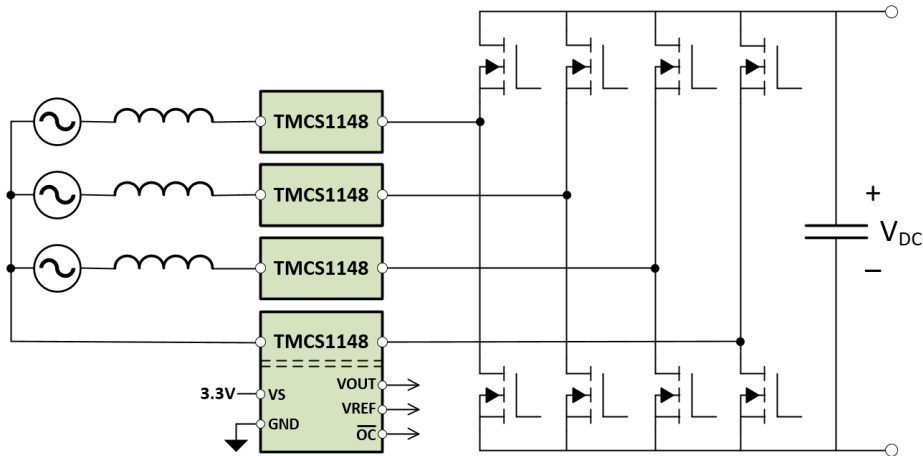

Figure 10-2. AC to DC Converter Current Sensing
challenge to sensing in PFC stages is that the current sensor is subjected to large voltage spikes coming from the high-voltage (HV) power grid along with large transients coming from high speed power switches during charge transfer. Inherent isolation in the TMCS1148 construction helps overcome these challenges by providing high levels of isolation between the HV current sensing nodes and low-voltage control circuitry, with high common-mode transient immunity (CMTI). Figure 10-2 shows the use of the TMCS1148 measuring phase currents in a common AC to DC converter stage.